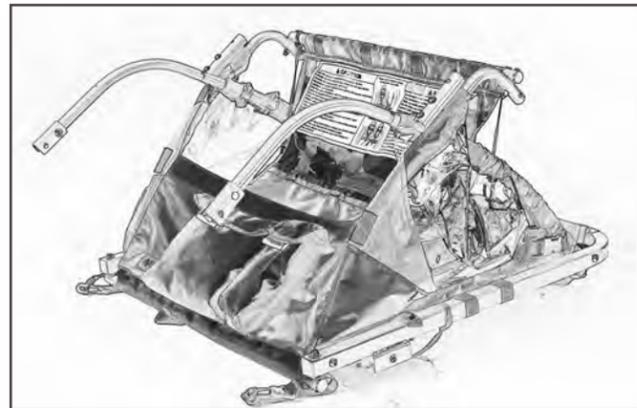

Figure 38
9. Fold upper cabin as shown (Fig. 38):